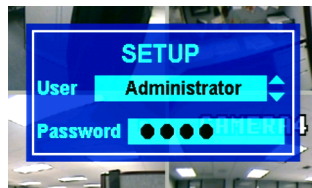

Figure 8. Logging In as the Administrator
1. Press the Menu button on the front panel of the DX4000. The Setup screen appears. Refer to Figure 8.